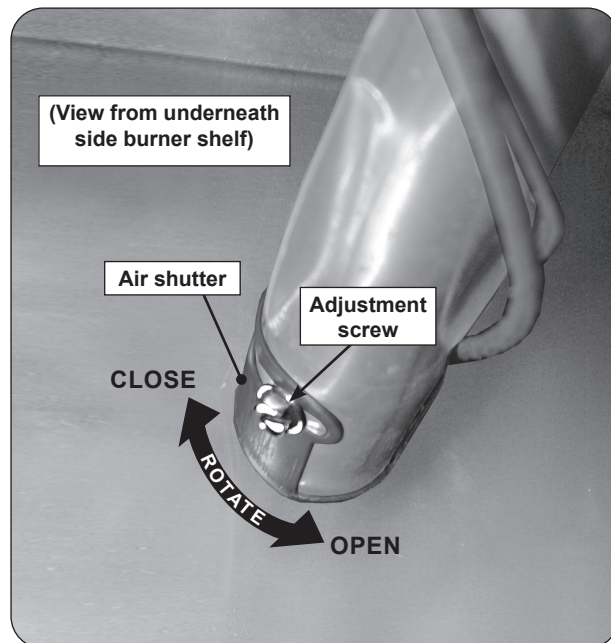

Fig. 38-1 Side burner air shutter adjustment detail
2. Loosen the adjustment screw with a flathead screwdriver, then carefully rotate the shutter to open or close it. See Fig. 38-1 for details.